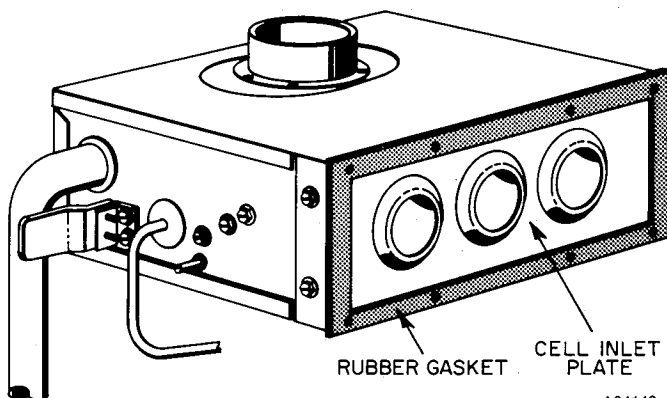

Fig. 11—Burner Closure
13. Check condition of gasket on cell inlet panel of burner enclosure. Replace gasket if necessary. See Fig. 11.